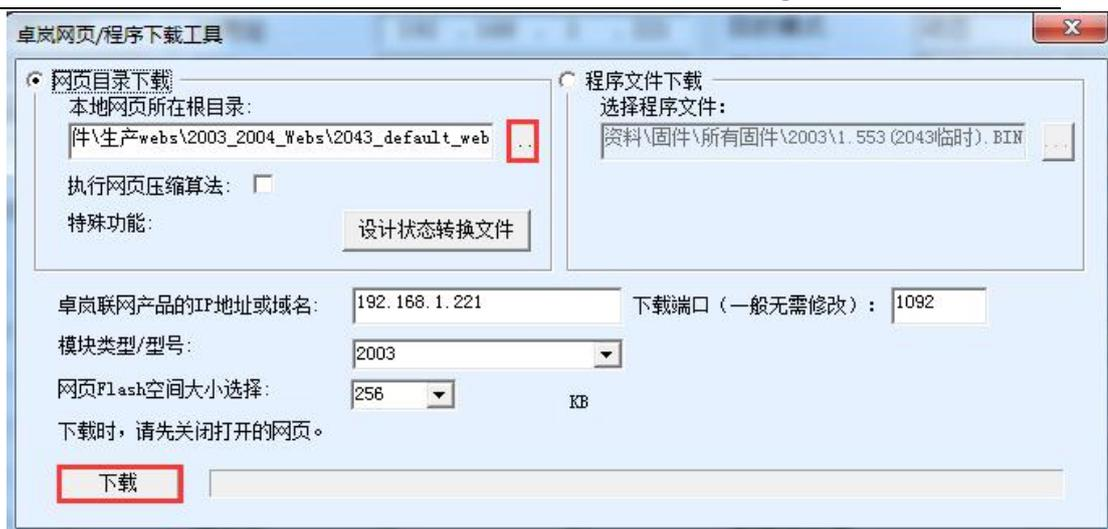

Figure 61 ZLSN2003 web upgrade method
- 3 As shown in Figure 61, select the Program File Download option. In the program file, select the firmware file. The IP address of the serial port server is automatically entered, and the module type/model is automatically selected. And then CLICK download.
- 6 Web configuration page update: After the firmware upgrade, the internal configuration page of the module must be updated. Otherwise, the communication is not affected. Web pages can be downloaded without web configuration. To download the Web, change the "Program File" download mode to "Web Directory Download" as shown in Figure 61. Select the root directory of the local web page as the directory of the web page file to be downloaded (the directory can be obtained from Zolan), click Download, and download all files in the local web page directory to the internal file system of the device.